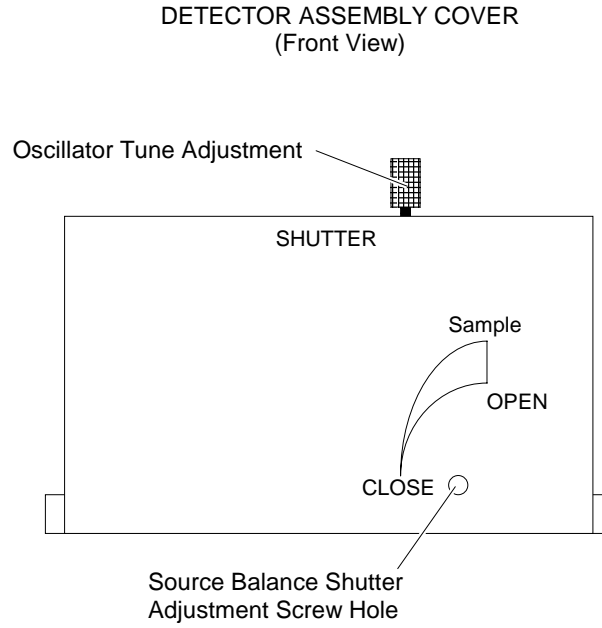

FIGURE 4-5. OSCILLATOR TUNE, SOURCE BALANCE SHUTTER ADJUSTMENTS
7. Using an appropriate screwdriver that will fit through the Source Balance Adjustment Screw Holes (see Figure 4-5), rotate the sample shutter adjust screw until a minimum reading on the display is obtained. (A typical reading is 0.2 through 0.5.)